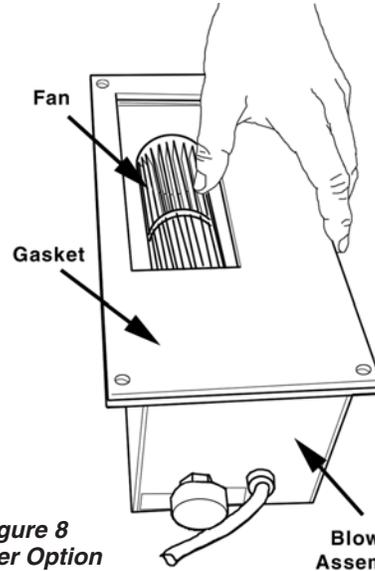

Figure 8
12. Place blower gasket onto blower assembly so as not to obstruct the air flow from the fan (Figure 8).